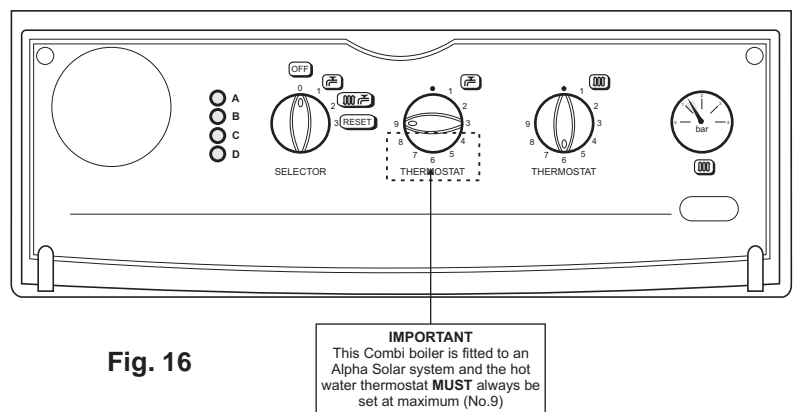

Fig. 16
3. A self adhesive label is supplied in the Solar Valve Kit. This label **must** be located as shown in Fig. 16, over the boiler hot water thermostat knob after it has been set to its maximum position, i.e. fully clockwise to position No. 9. This will ensure that the hot water temperature from the boiler will be approximately 60°C and will prevent the knob from being adjusted to a lower temperature.
3. How important it is for the combination boiler hot water thermostat to be left at the maximum position (No. 9) and that it is the purpose of the label (Fig. 16) to maintain this and that the label must not be removed.